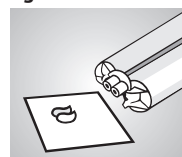
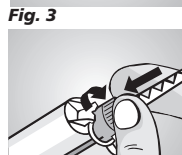

Fig. 3
Fig. 4
Cartridge material is extruded using the Automix2-System dispensing gun (Fig. 2). After inserting cartridge into dispensing gun, unscrew cap and carefully extrude a small amount of material to insure proper flow from both ducts (Fig. 3). Attach mixing cannula by aligning notched side to cartridge and turning clockwise until fastened (Fig. 4). Dispenser now ready to mix silicone in any amount needed. Leave mixing cannula on cartridge after use. Use only blue **tempofit® premium** 10:1 blue mixing cannulas!
- To ensure a homogeneous mixing: Prior to insert the mixing cannula, **always** eject a small amount of material to ensure extruding **equal amounts** of base and catalyst from **both orifices** (Fig. 3).